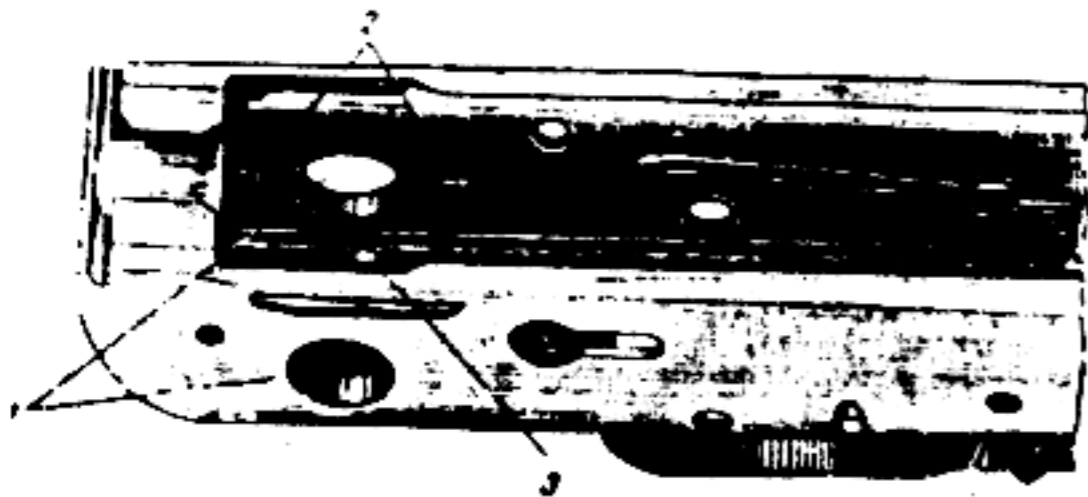

Figure 12. Rear portion of receiver of automatic rifle with folding metal stock.
The receiver of the automatic rifle with folding metal stock (fig. 12) has holes (1) in the rear portion for the stock pin, holes (2) in the left wall for the stock catch, and holes (3) for convenient removal of the catch pin.